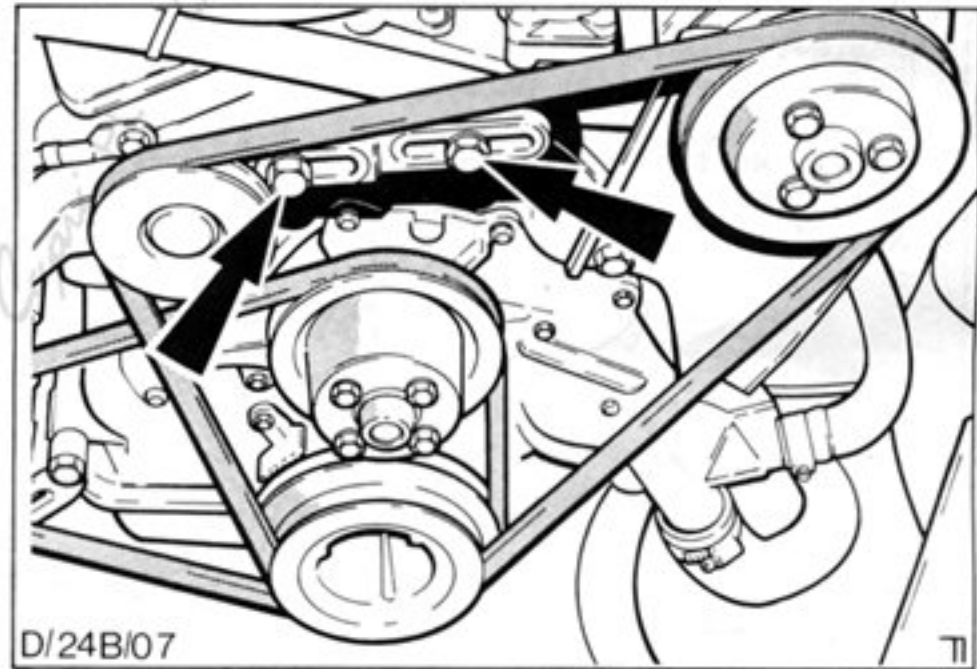

Fig.24. Power steering belt tensioner securing bolts.
5. Slacken power steering belt tensioner securing bolts, Fig.24, and remove belt.